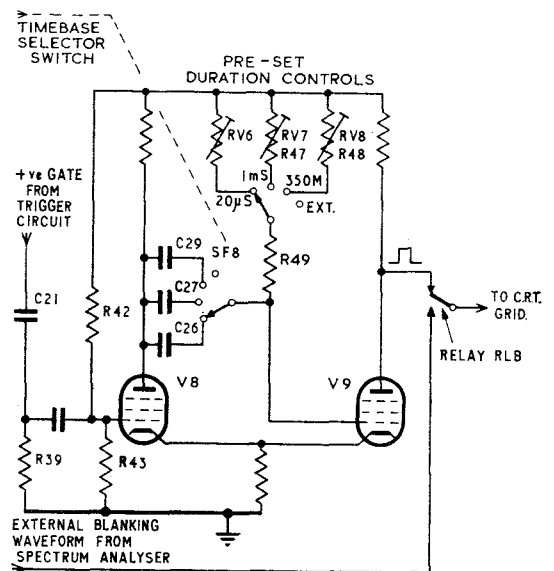

Fig. 5. Simplified circuit of bright-up generator
26. A positive-going pulse, having a duration sufficient to display the linear portion of the timebase waveform, is generated by a cathode-coupled flip-flop circuit V8, V9. A simplified diagram of this circuit is given in fig. 5.